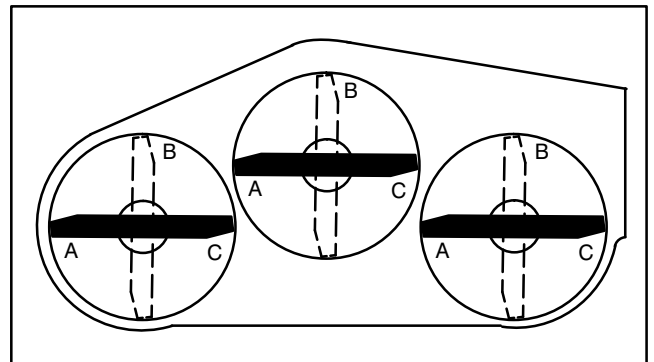
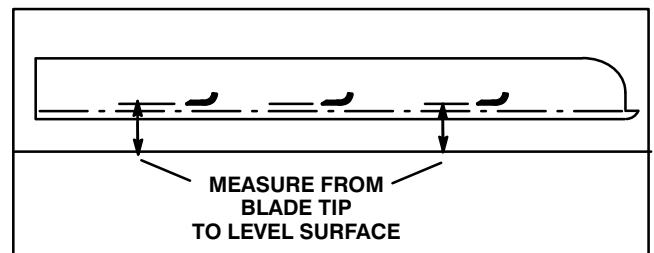

Figure 32
Figure 33
(Fig. 32–33)
5. Position all three blades in the “A” position (Fig. 32) and measure from level surface to the bottom of the tip end of each blade (Fig. 33).
6. Note measurement attained at “A”, rotate blades to “B” position (Fig. 32), measure distance of all blades to level surface and note dimensions (Fig. 33).
7. Rotate blades to “C” position, measure and note distance measured (Fig. 32, 33).